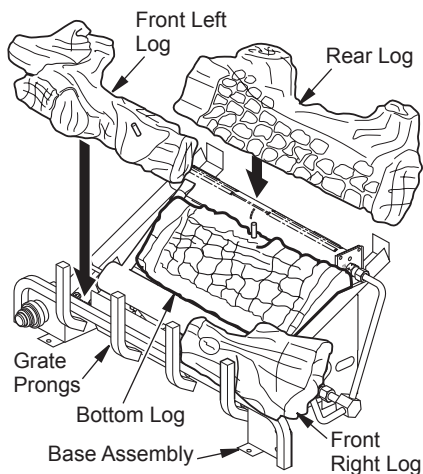

Figure 26 - Installing Log Set
1. Place bottom log in center of the base assembly as shown in Figure 26.
2. Rest rear log in back corner sections of base assembly as shown in Figure 26. Make sure log is completely vertical and not leaning in toward burner where flame will touch the log.
3. Position front right log against right side of grate prongs (see Figure 26).
4. Position front left log against left side of grate prongs (see Figure 26).